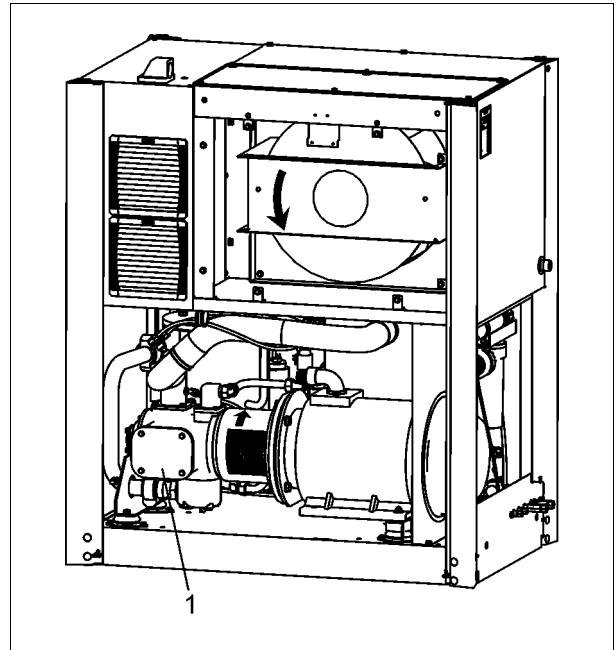

Fig. 24
- Remove the retaining bolts from the side cover of the compressor and take off the cover (-1- Fig. 24).